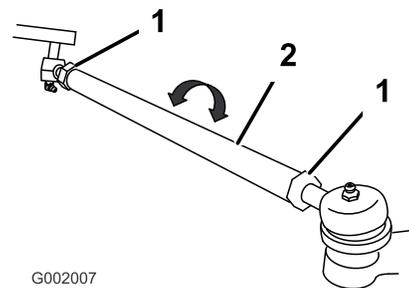

Figure 52
5. If the measurement does not fall within the specified range, loosen the jam nuts at both ends of the tie rods (Figure 52).